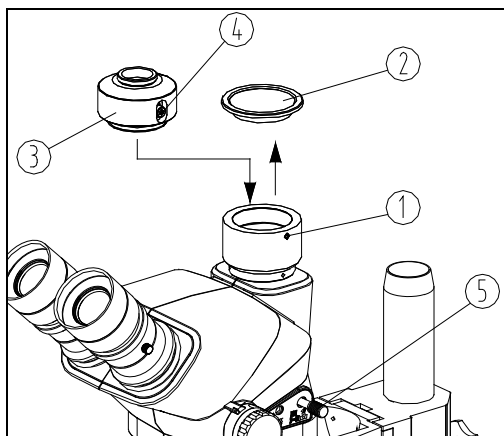

Fig. 6
Video/Photography Accessories Assembly and Use (Fig. 6)
Insert the camera adapter ③ with camera into the camera port in the direction shown in Fig. 6, and tighten the lock screw ①.
Focus on a sample using the eyepieces, then compare to the live image on the camera software. If the camera image is out of focus, loosen the adjustment screw ④ on the camera adapter ③, and move the adjustment screw ④ up and down for focusing, then lock the adjustment screw ④ until the image is clear. (See Fig. 6)